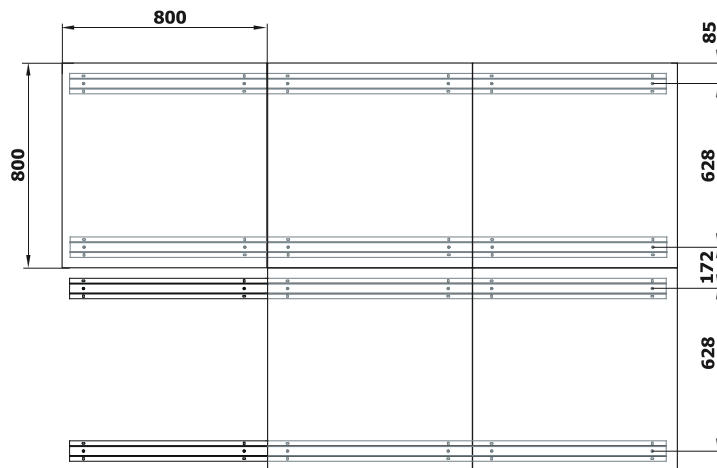

Fig.4: Horizontal mounting rails-dimensions
Observe the fitting dimensions (Figs. 4 ...7). Ensure sufficient cooling. Do not cover up the vents in the device (5) and in the mounting rail.